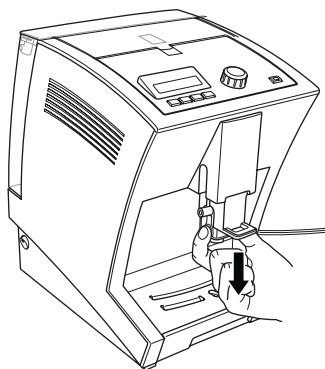

Fig. 9: Removing the coffee-milk dispenser
5. Remove the coffee-milk dispenser by pulling out the whole part out of the guide towards the bottom using the handles (Fig. 9).